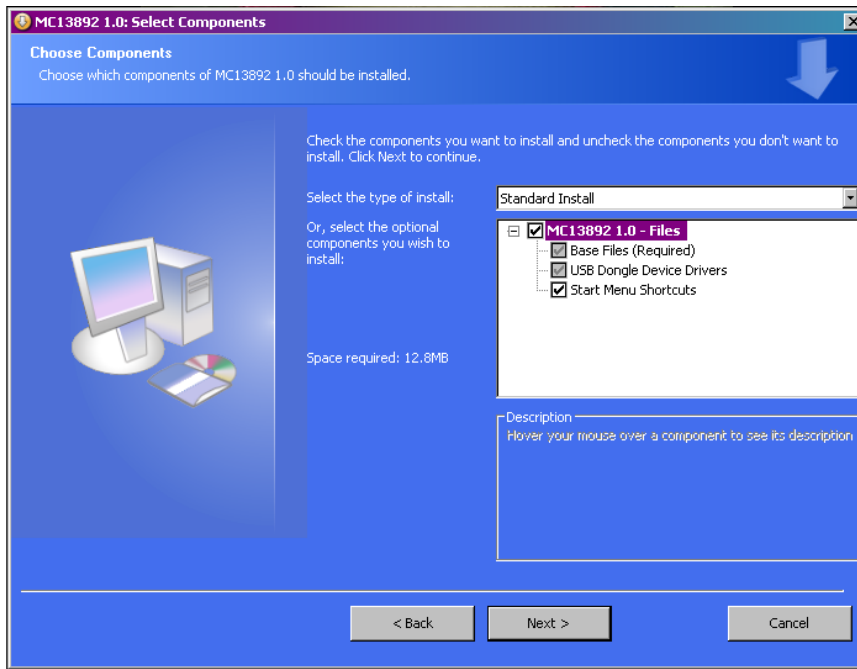

Figure 14. Choose Component Window
3. Figure 14 shows the application components and the device drivers for the USB Dongle. There is no reason for users to uncheck the options to install the files.